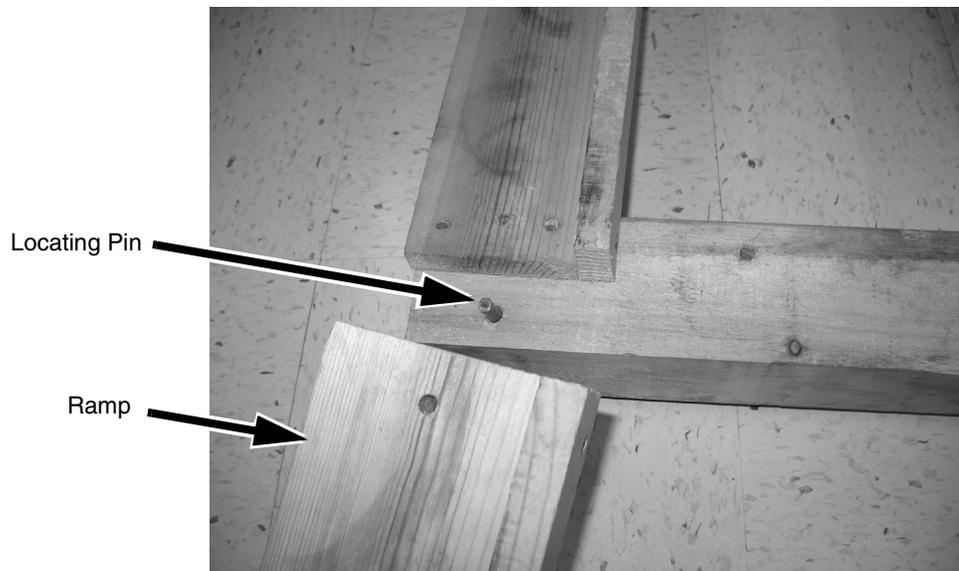

Figure 1. Reversing the Ramps and Engaging the Locating Pin
6. Reverse the ramps and engage the locating pin in the angled blocks on the end of the pallet. See Figure 1.